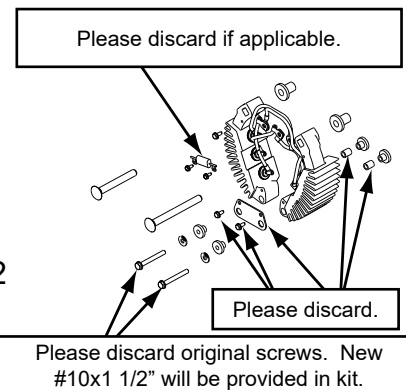

Fig 2
Step 3: Please discard items shown in Fig 2.